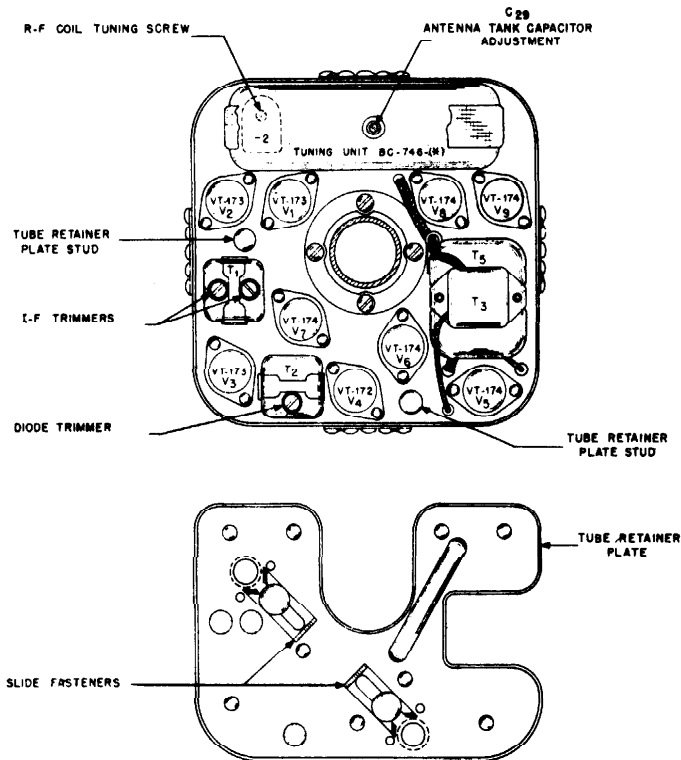

Figure 16. Radio Receiver and Transmitter BC-745-(\*), Chassis Bottom View
Drop the bottom cover of Radio Receiver and Transmitter BC-745-(\*), and remove the tube retainer plate by grasping the ears on the two slide fasteners, pulling back until the ends of the fasteners clear the heads of the studs. Pull the plate off the studs. The tubes can then be reached, and may be removed from their sockets. (See Figure 16.)
- (1) Unsolder the leads.
- (2) Remove the mounting bracket screw and the U bracket from underneath the transformer (Figure 16).
- (3) Lift the transformer from the chassis base.
- (4) Mount the new transformer in position on the base, feeding the leads through the holes in the chassis base.
- (5) Place the mounting strap over the transformer and feed through the slots in the chassis base.
- (6) Place the U bracket and screw in position and tighten sufficiently to hold the transformer firmly to the chassis base.
- (7) Connect and solder the leads to the proper terminals.
- (1) Unsolder the transformer leads (Figure 16).
- (2) Loosen and remove the screw holding the mounting straps. This rests on the housing of transformer T4. NOTE: Put the threaded U bracket and screw aside.
- (3) Remove the transformer from Radio Receiver and Transmitter BC-745-(\*).
- (4) Place the new transformer and strap assembly in position on top of T5 feeding the straps through the slots in the chassis base. Place the U bracket in position, put the screw into the threaded hole in the U bracket and tighten sufficiently to hold the transformers securely.
- (5) Connect and solder the leads to the proper terminals.
- (1) Remove the screw and U bracket from the mounting straps attached to transformer T4 (Figure 16).
- (2) Unsolder the leads and remove the choke.
- (3) Place the new choke in position; connect and solder the leads.
(4) Place the mounting straps in position and place the U bracket over the straps.
(5) Thread the screw through the straps and bracket, tightening sufficiently to hold the transformers firmly in position.
(1) Unsolder the leads of transformer T5 (Figure 16).
(2) Remove the screw and U bracket from the mounting straps attached to transformer T3.
(3) Lift Transformer T3 from transformer T5. It will not be necessary to unsolder any of the leads from T3.
(4) Remove transformer T5.
(5) Place the new transformer in position, feeding the leads through the proper holes in the chassis base.
(6) Feed the mounting strap through the slot in the chassis base and place T3 on top of T5.
(7) Solder the leads to the proper terminals.
(8) Place the U bracket, screw in position and tighten sufficiently to hold the transformer firmly in place.